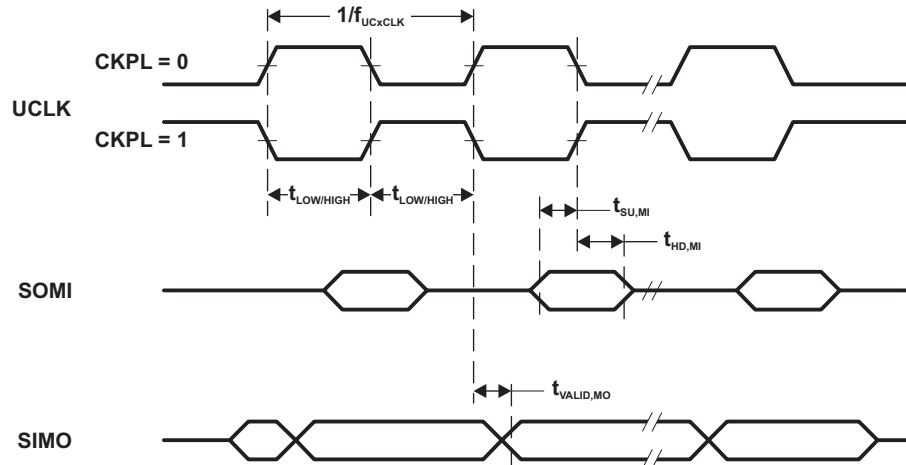
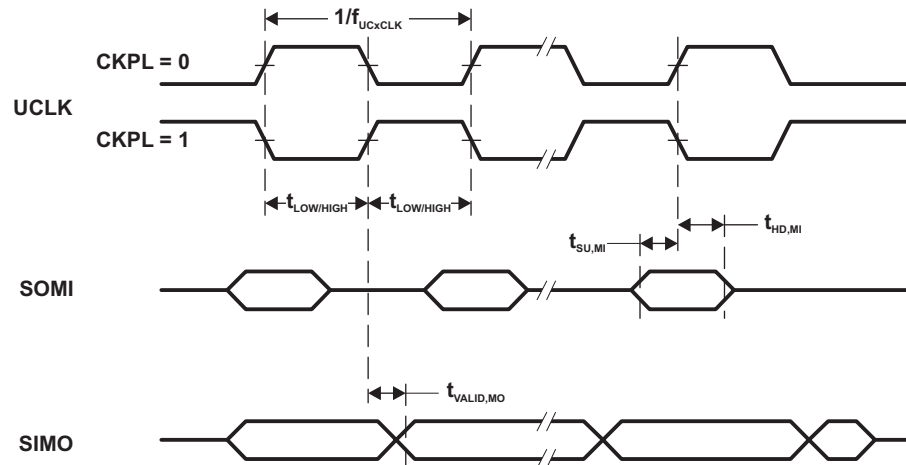

Figure 5-10. SPI Master Mode, CKPH = 0
Figure 5-11. SPI Master Mode, CKPH = 1
- (1) f_{UCxCLK} = 1/2(t_{LO/Hi}) with t_{LO/Hi} = max(t_{VALID,MO(eUSCI)} + t_{SU,SI(Slave)}, t_{SU,MI(eUSCI)} + t_{VALID,SO(Slave)}). For the slave's parameters t_{SU,SI(Slave)} and t_{VALID,SO(Slave)} see the SPI parameters of the attached slave.
- (2) Specifies the time to drive the next valid data to the SIMO output after the output changing UCLK clock edge. Refer to the timing diagrams in Figure 5-10 and Figure 5-11.
- (3) Specifies how long data on the SIMO output is valid after the output changing UCLK clock edge. Negative values indicate that the data on the SIMO output can become invalid before the output changing clock edge observed on UCLK. Refer to the timing diagrams in Figure 5-10 and Figure 5-11.